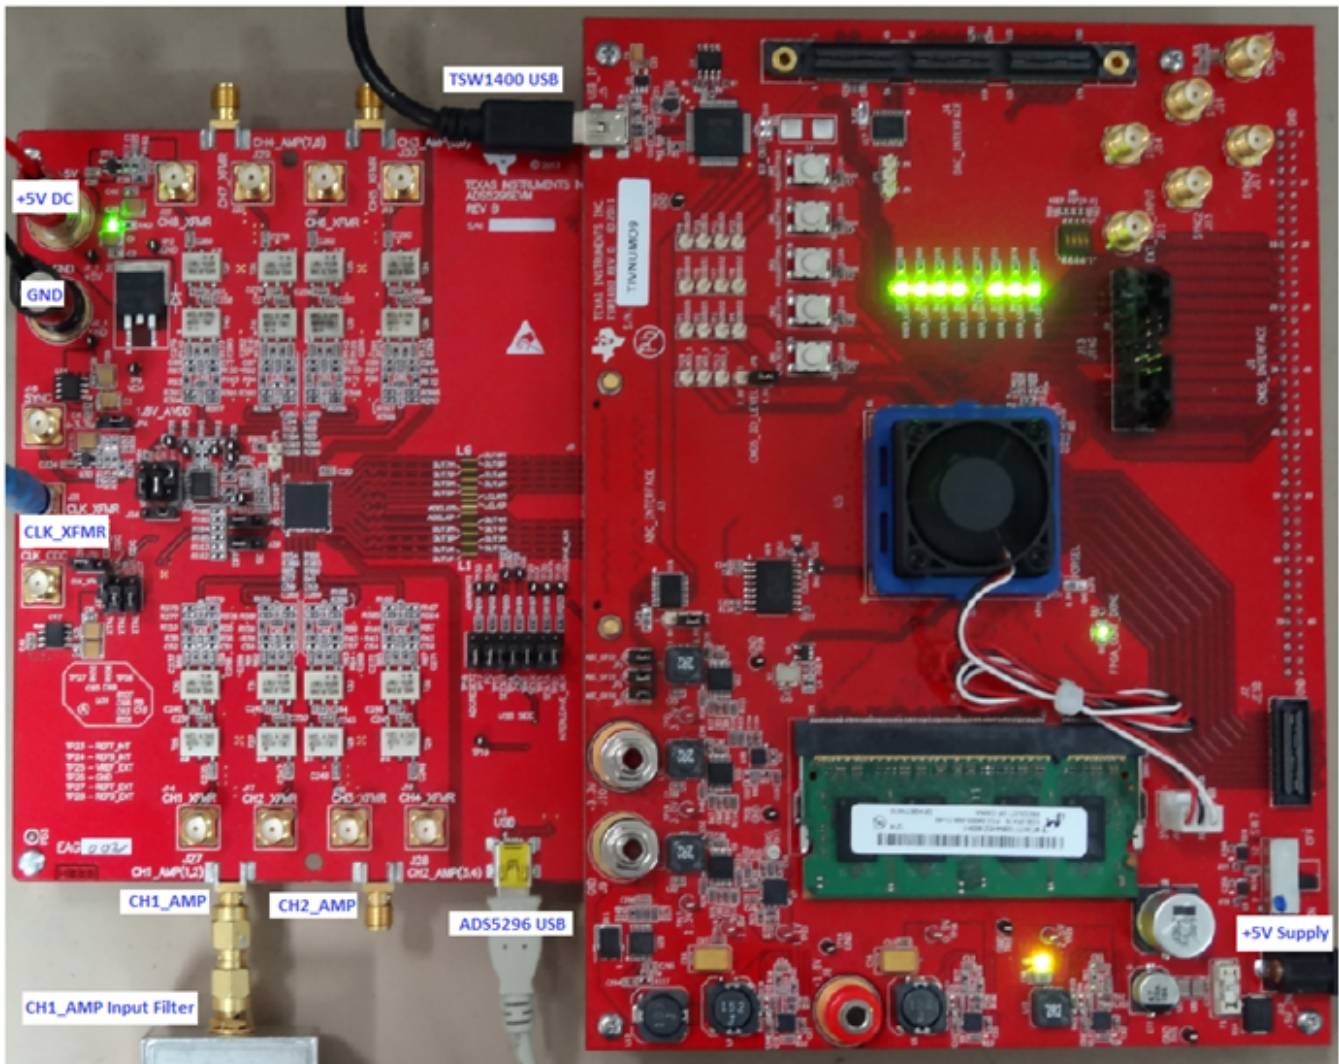

Figure 47. Quad-Interleaving Mode Hardware Setup
1. Setup the EVM as shown in Figure 47 by performing the following steps:
- (b) Provide the input signal to SMA J27 labeled **CH1_AMP(1,2)** (+15.1 dbm, 10 MHz). For high-performance results the instrument should have low phase noise and low harmonic distortion. In addition, a filter is recommended on the input as shown in Figure 47.